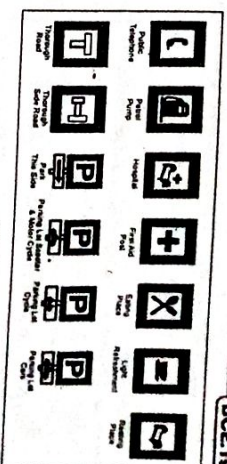

Fig. 3
3. Informative Signs: These signs guide the road users about destinations, distance, alternative routes, and prominent locations like food joints, public toilets, nearby hospitals, etc. Some informative signs are shown in figure 3.